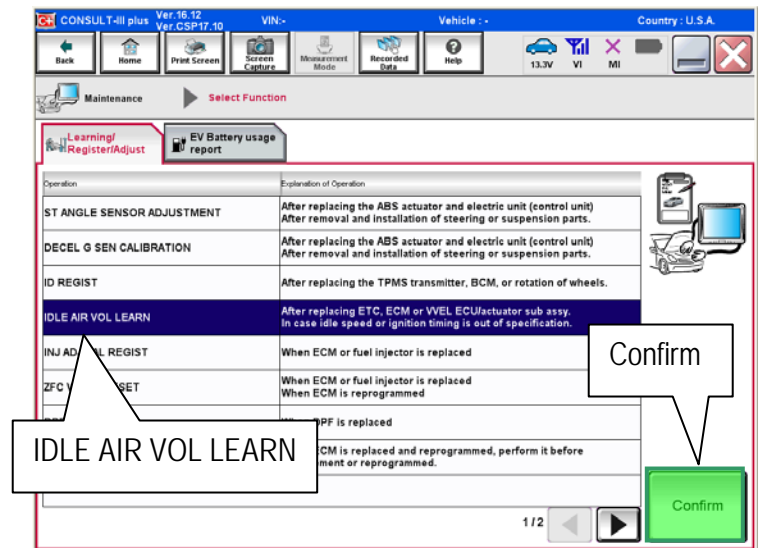

Figure 2
- c. In the CIII plus "Maintenance mode", select "IDLE AIR VOL LEARN" and then "Confirm". See Figure 2.